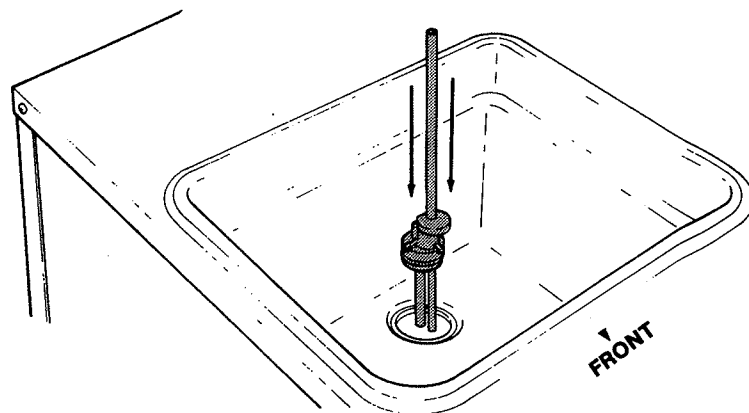

Figure 49. Carburetor Installation
- Q. Insert carburetor into hopper with air inlet (long) tube toward front of freezer. (See Fig. 49.)